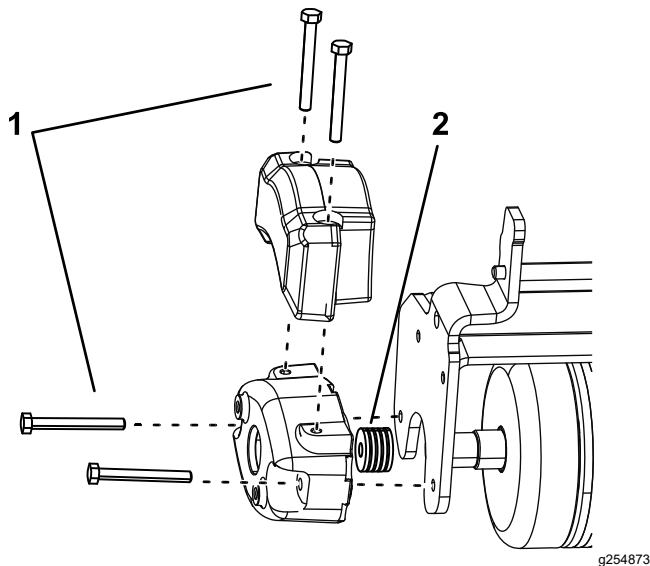

Figure 6
2. Install 2 bolts (5/16-18 x 2-3/4 inch) as shown in Figure 6.
3. Install 4 washers (1/8 inch) per bolt between the counterweight and the spiker side plate (Figure 6).